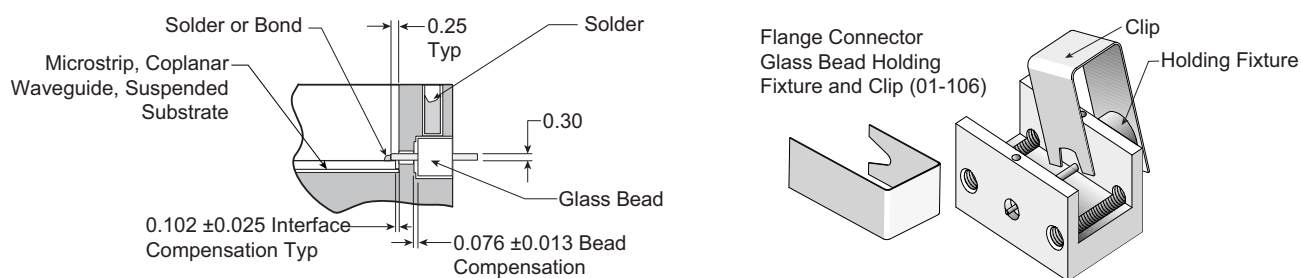

Figure 6-3. K103F-R or EK103F-R Glass Bead Assembly
1. Install the microstrip into the housing (see Figure 6-3 for dimensional tolerances around the glass bead).
3. Flux the glass bead and insert it, long-end first, into the 01-106 Glass Bead Holding Fixture (Figure 6-3).
5. Secure the holding fixture in place by using the spring clip furnished with the fixture (Figure 6-3). Position the spring clip so as not to obstruct the solder access hole in the housing. Ensure that the glass bead is centered and that it is making good contact with the microstrip.